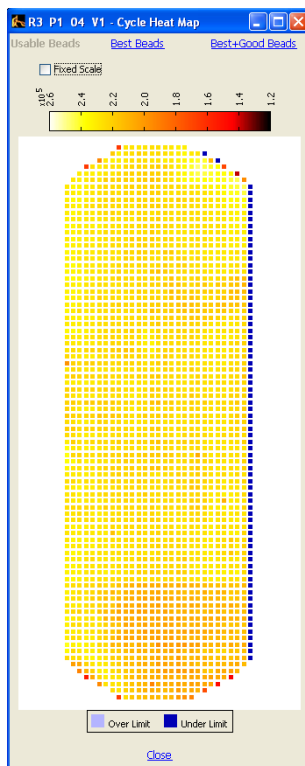

Figure 68 Click the heat map link to view the heat map for that cycle.
2. Click the heat map link to view the heat map for that cycle (see Figure 68).